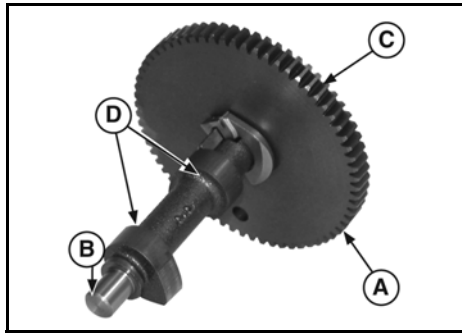
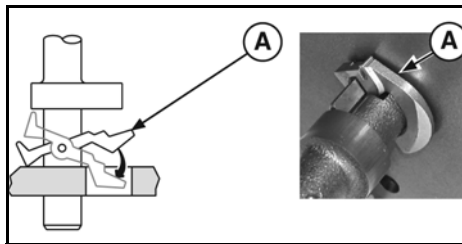

Figure 4
Figure 5
1. Check gear (A, Figure 4) for worn or damaged teeth. Check lobes (D) and journals (B, C) for scratching or scoring. Check compression release mechanism (A, Figure 5) for wear, burrs, or sticking. Replace camshaft if any of these conditions are found.